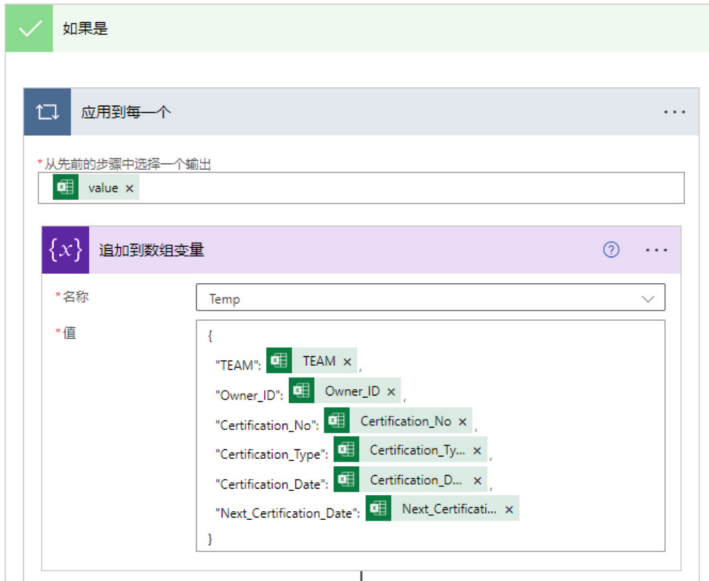

Fig. 1. The step to append data read from Warning table to array variable Temp
- 2) Read the data in the Warning table and get the number of data rows in the table. This step is used to verify whether there is certificate data in the Warning table. If there is no data, subsequent operations can be omitted; Otherwise, it is necessary to continue with the subsequent steps of the process. The expression for obtaining the number of rows in the Warning table is as follows: `length(outputs('list the rows that exist in the table')?['body/value'])` (see Fig. 1).
- 5) In the "If Yes" branch of the conditional judgment, that is, when the number of data rows is not 0, the data in the table will be appended to the array variable Temp(see Fig. 1).